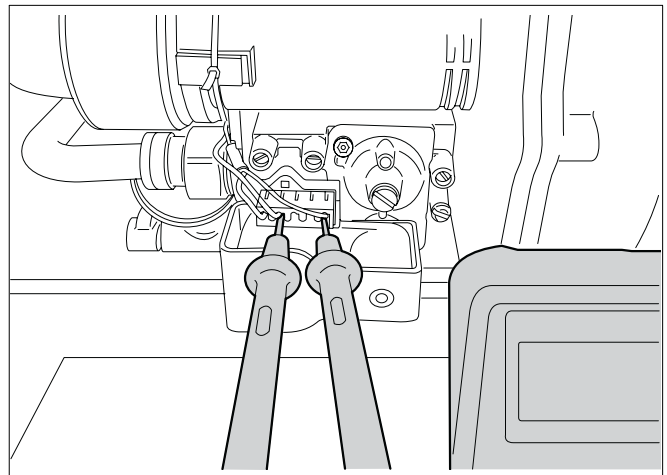

Fig. 72 Voltage testing on the gas control valve
- Use a volt-ohm-multiammeter to check that, while operating code $\square L$ is displayed, there is a voltage on the plug of the gas control valve. The test must indicate a voltage of 20 – 24 VDC both when testing on the central and left contacts and when testing on the central and right contacts (see fig. 72).